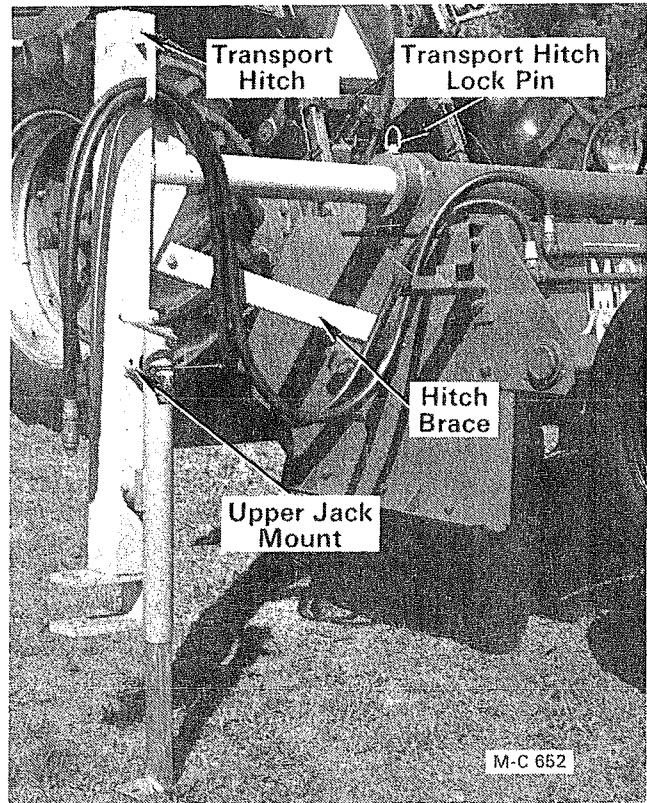
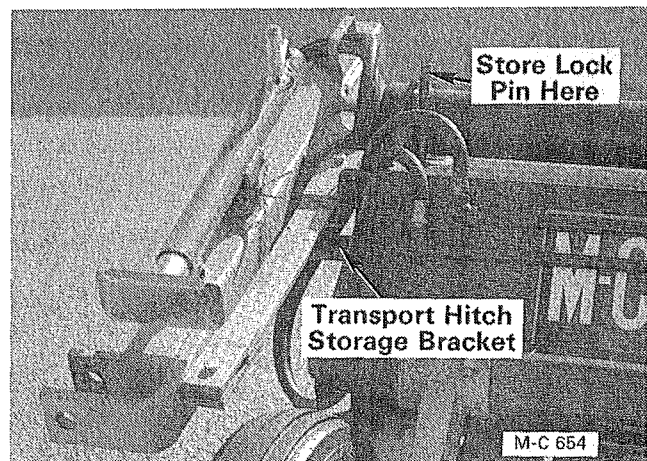

Figure 15D
Figure 15F
8. Connect the Shredder hydraulic hoses to the tractor. Lower the transport hitch with the jack. Retract the jack all the way and move it to the upper mount on the transport hitch, see Figure 15D.
10. Disconnect the transport hitch brace from the Shredder. Remove the hair pin clip from the end of the transport hitch lock pin and pull the pin out, see Figure 15D. Store the lock pin in the holder on the left side of the Shredder, see Figure 15F.
11. Slide the transport hitch assembly into the pipe and place it on the storage bracket, see Figure 15F.